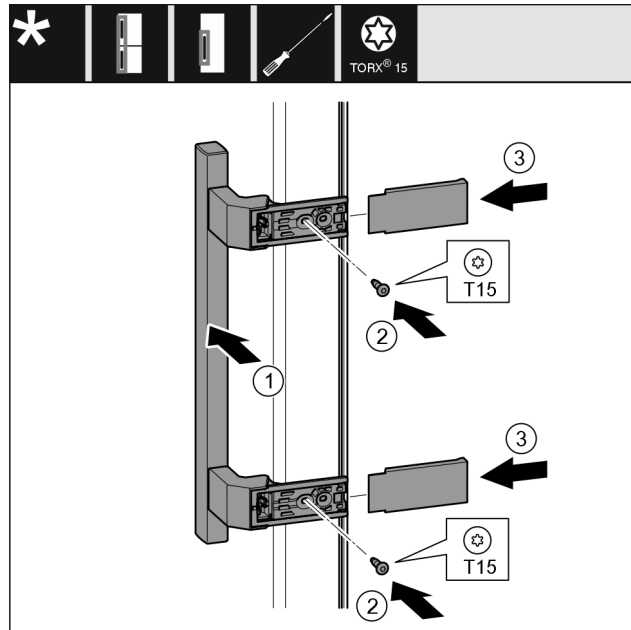

Fig. 21
- ▶ Place the handle Fig. 21 (1) on the opposite side.
- ▶ Tighten screws Fig. 21 (2) with screwdriver.
- ▶ Place the covers Fig. 21 (3) on the side and push them on.